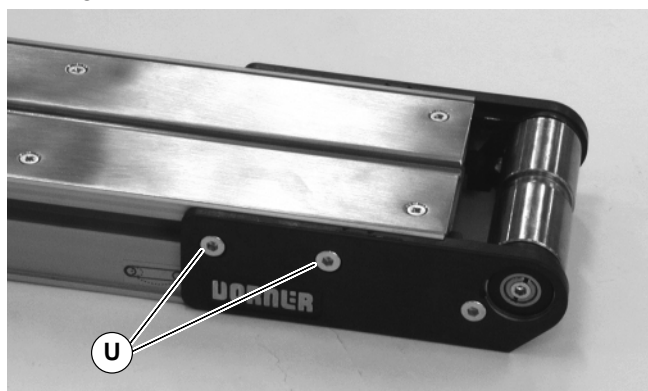

Figure 51
2. Install pulley assembly on conveyor. On both sides of conveyor, hand tighten fastening screws (U of Figure 51).